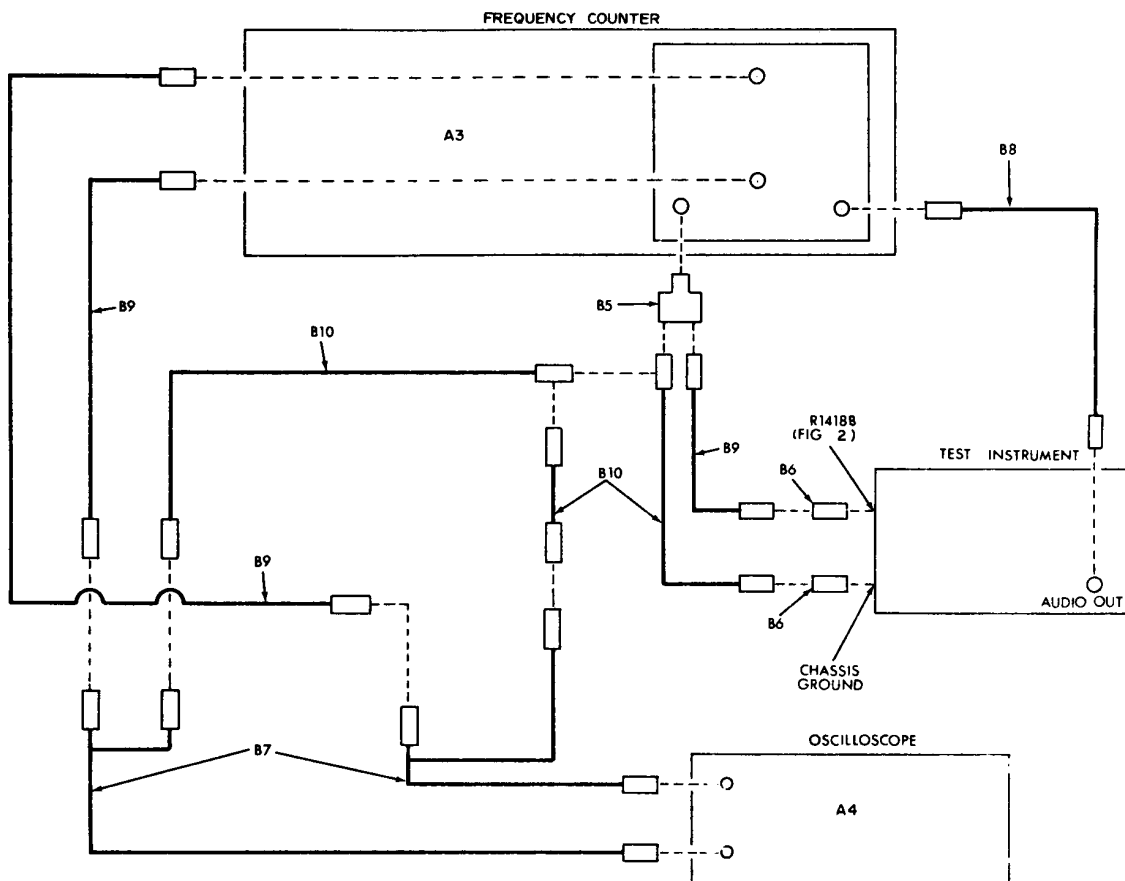

Figure 8. VOR azimuth - equipment setup.
- (4) Connect equipment as shown in figure 8.